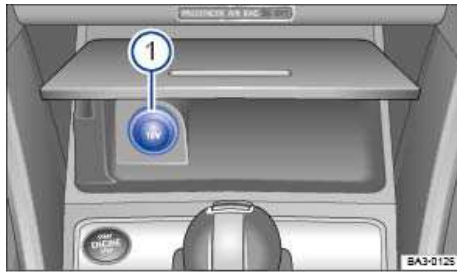

Fig. 148 12 Volt socket in the front center console.
- In the storage compartment in the front center console ⇒ fig. 148 \(1\).